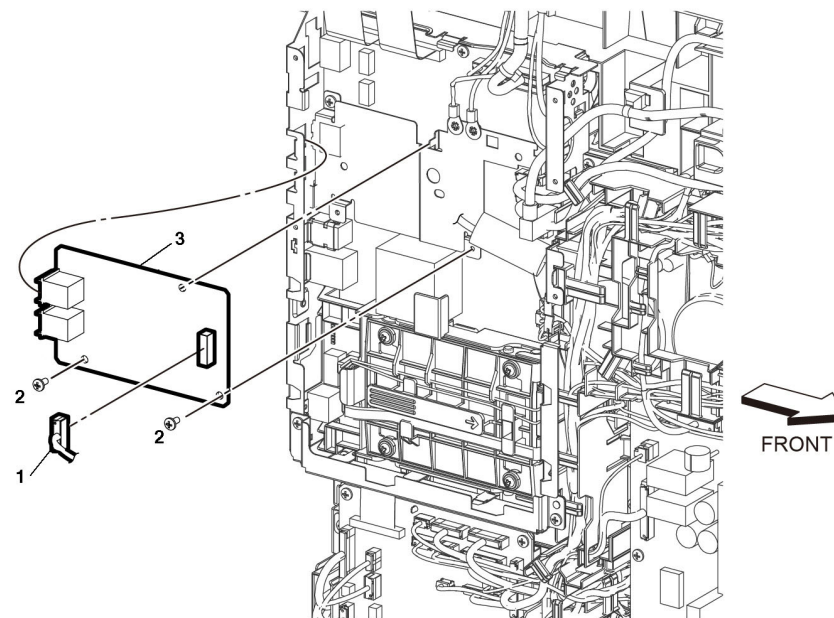

Figure 1 Remove the FAX PWB (C505/C605/C605_Tall)
3. Disconnect P/J1350 (1) from the FAX PWB (2).
4. Refer to Figure 1 remove two screws (3) attaching the FAX PWB.